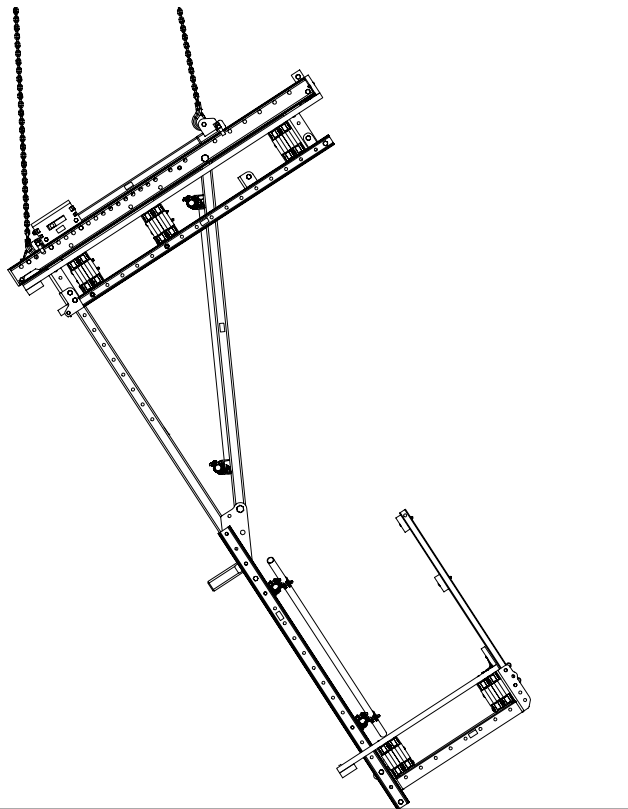

Fig. B7.04
5. Lift platform unit out of the Scaffold Mounting Rings (81) and set down on the dismantling area. (Fig. B7.04)